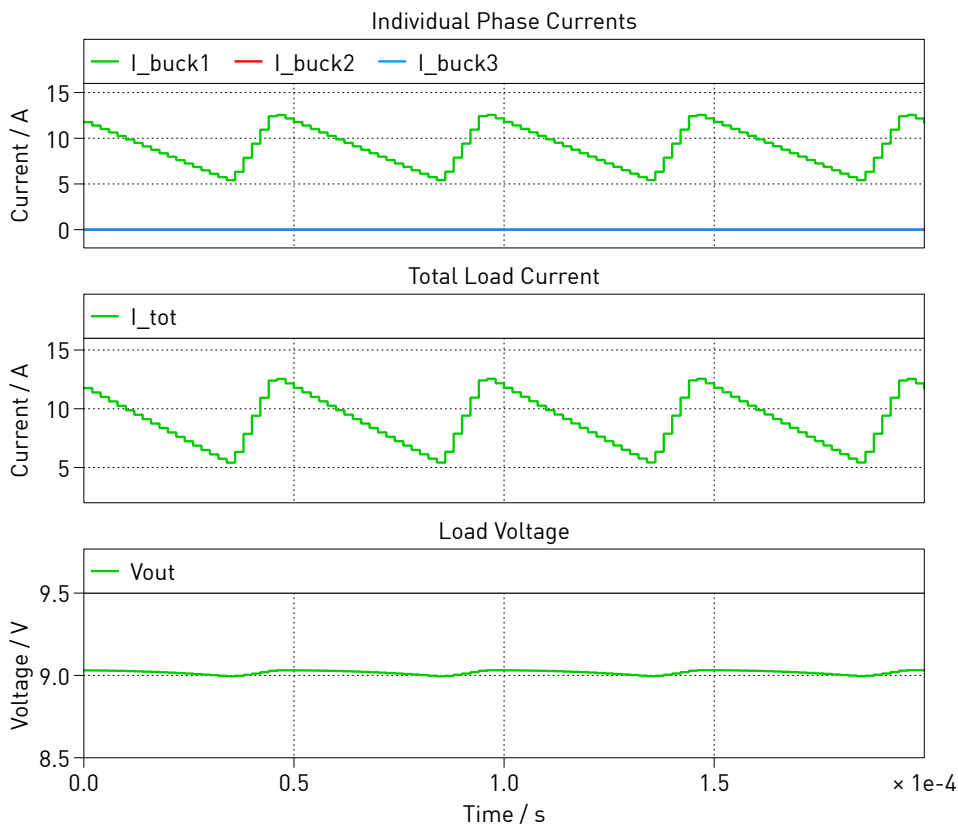

Figure 6: Simulation result with only one active phase
- Under External Mode, one can further change the aforementioned Constant block from [1 0] to [0 0]. This gives the biggest load resistance, hence the smallest load current. The real-time simulation waveforms should look like in Fig. 6, where only the first phase is active.